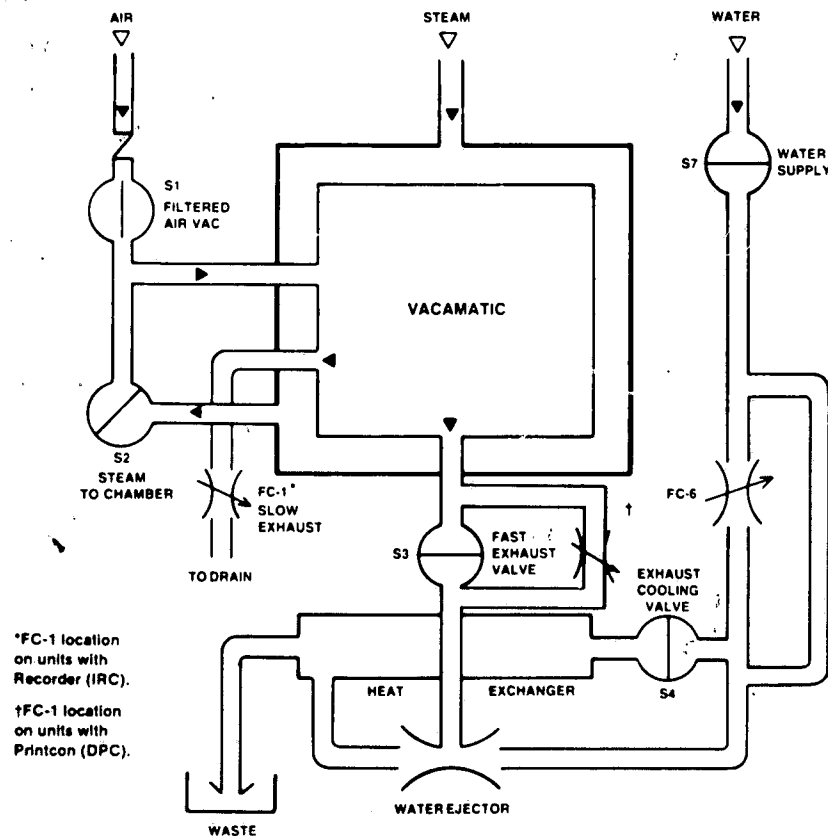

Figure 3-1. PIPING DIAGRAM: VACAMATIC STERILIZER.
accomplished by simultaneously opening the steam-to-chamber valve (S-2) and the fast exhaust valve (S-3). At the same time, the water supply valve (S-7) and exhaust cooling valve (S-4) are open. Opening these valves accomplishes two purposes: (1) the cooling water is circulated through the heat exchanger (see diagram, Fig. 3-1), cooling the exhaust steam sufficiently to keep the drain temperature below 140° F; (2) simultaneously, the cooling water passing through the water ejector and heat exchanger flows at a rate sufficient to create a suction at the drain, thus increasing the rate of air and steam flow through the chamber. Flow control valve FC-6 is manually adjusted to permit water flow at the optimal rate for the system. Because of flow resistance incorporated into the system design, the chamber pressure will rise to between 5 and 15 psig during this phase of the cycle.
During the "purge" at the beginning of the cycle, the air in the chamber is quickly displaced by steam. This is accomplished by simultaneously opening the steam-to-chamber valve (S-2) and the fast exhaust valve (S-3). At the same time, the water supply valve (S-7) and exhaust cooling valve (S-4) are open. Opening these valves accomplishes two purposes: (1) the cooling water is circulated through the heat exchanger (see diagram, Fig. 3-1), cooling the exhaust steam sufficiently to keep the drain temperature below 140° F; (2) simultaneously, the cooling water passing through the water ejector and heat exchanger flows at a rate sufficient to create a suction at the drain, thus increasing the rate of air and steam flow through the chamber. Flow control valve FC-6 is manually adjusted to permit water flow at the optimal rate for the system. Because of flow resistance incorporated into the system design, the chamber pressure will rise to between 5 and 15 psig during this phase of the cycle.
The Liquids cycle is identical to the Gravity cycle until the exhaust phase. When the sterilize phase of the cycle is complete, all solenoid valves are deenergized. Slow exhaust of the chamber is accomplished through the slow exhaust line (see diagram, Fig. 3-1), which allows a slow bleed out of the chamber. Slow exhaust rate is controlled by the manually set flow control valve, FC-1.